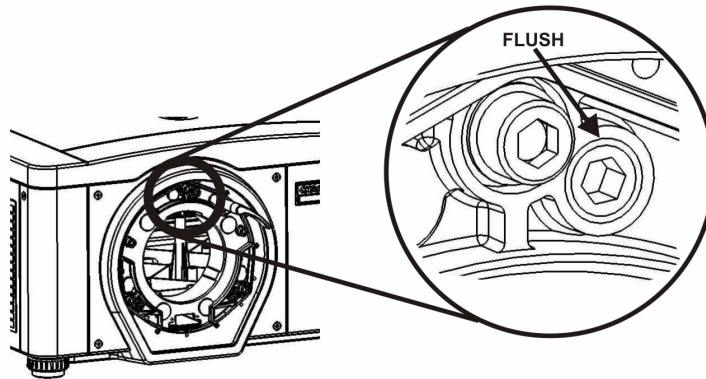

FIGURE 2-17 - POSITION SETSCREW FLUSH
9. The original factory boresight can be recovered approximately by positioning the 3 setscrews, see Figure 2-16 - Screw Locations. Position the setscrews flush with the front face of the lens mount plate and in contact with the inner lens mount plate, see below Figure 2-17 - Position Setscrew Flush. This may require adjusting both setscrews and capscrews.